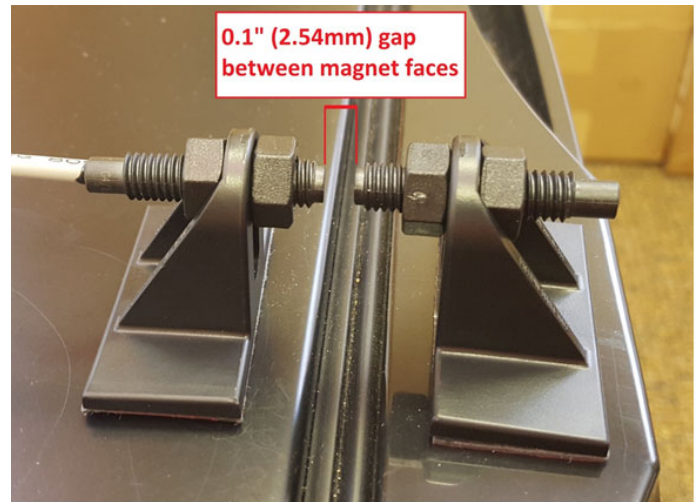
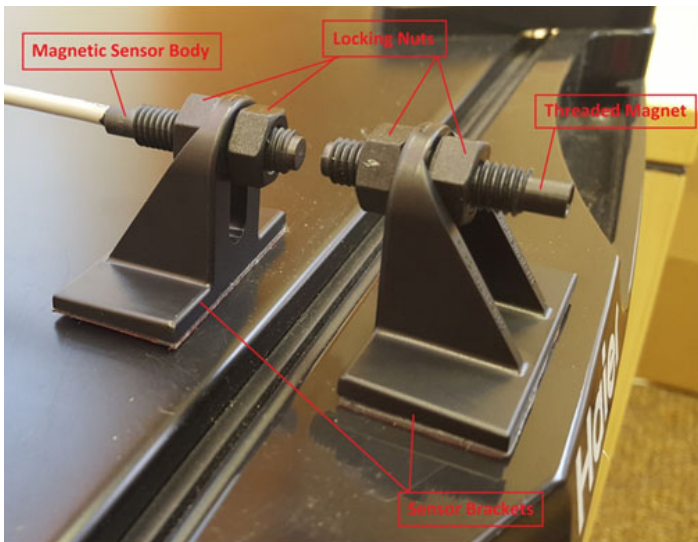

Figure 20. Magnetic door switch maximum magnet gap
Figure 19. Magnetic door switch sensor installation
1. See **Figure 19** & **Figure 20** for sample installation of the door switch.